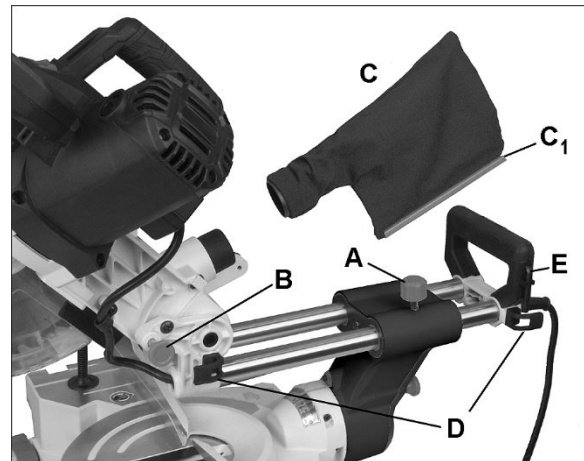

Figure 6-1
2. Pull out on head release pin (B, Figure 6-1).
Push dust bag onto exhaust port (Figure 6-1).
To empty dust bag, remove it from exhaust port, slide off plastic clip (C₁, Figure 6-1) and empty sawdust through bag opening. Reinstall clip before using dust bag.
The slide carriage has two clips for cord storage when machine is not in use (D, Figure 6-1).
The hex wrench used for blade changing is stored in the rear handle (E, Figure 6-1). The hex wrench also has a cross-point driver on its opposite end.